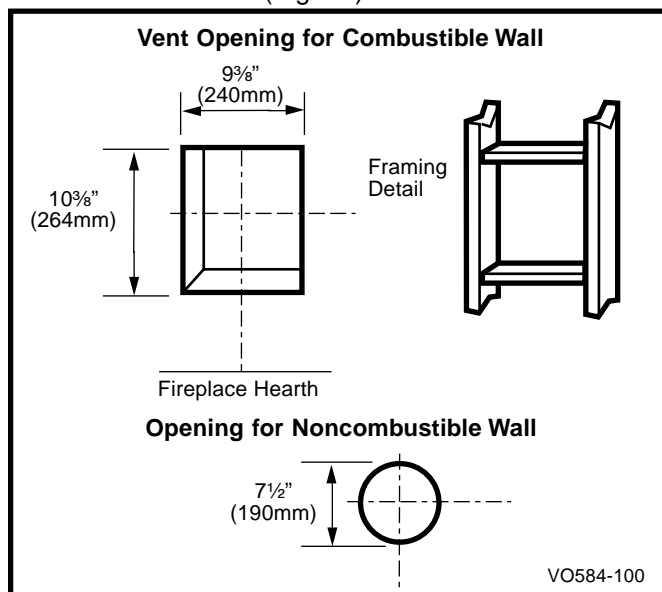

Fig. 14 Locate vent opening on wall.
**Combustible Walls** (Fig. 14): Cut a  $10\frac{3}{8}"$  H x  $9\frac{3}{8}"$  W (264 x 240mm) hole through the exterior wall and frame as shown.
**Noncombustible Walls** (Fig. 14): Hole opening must be  $7\frac{1}{2}"$  (190mm) in diameter.